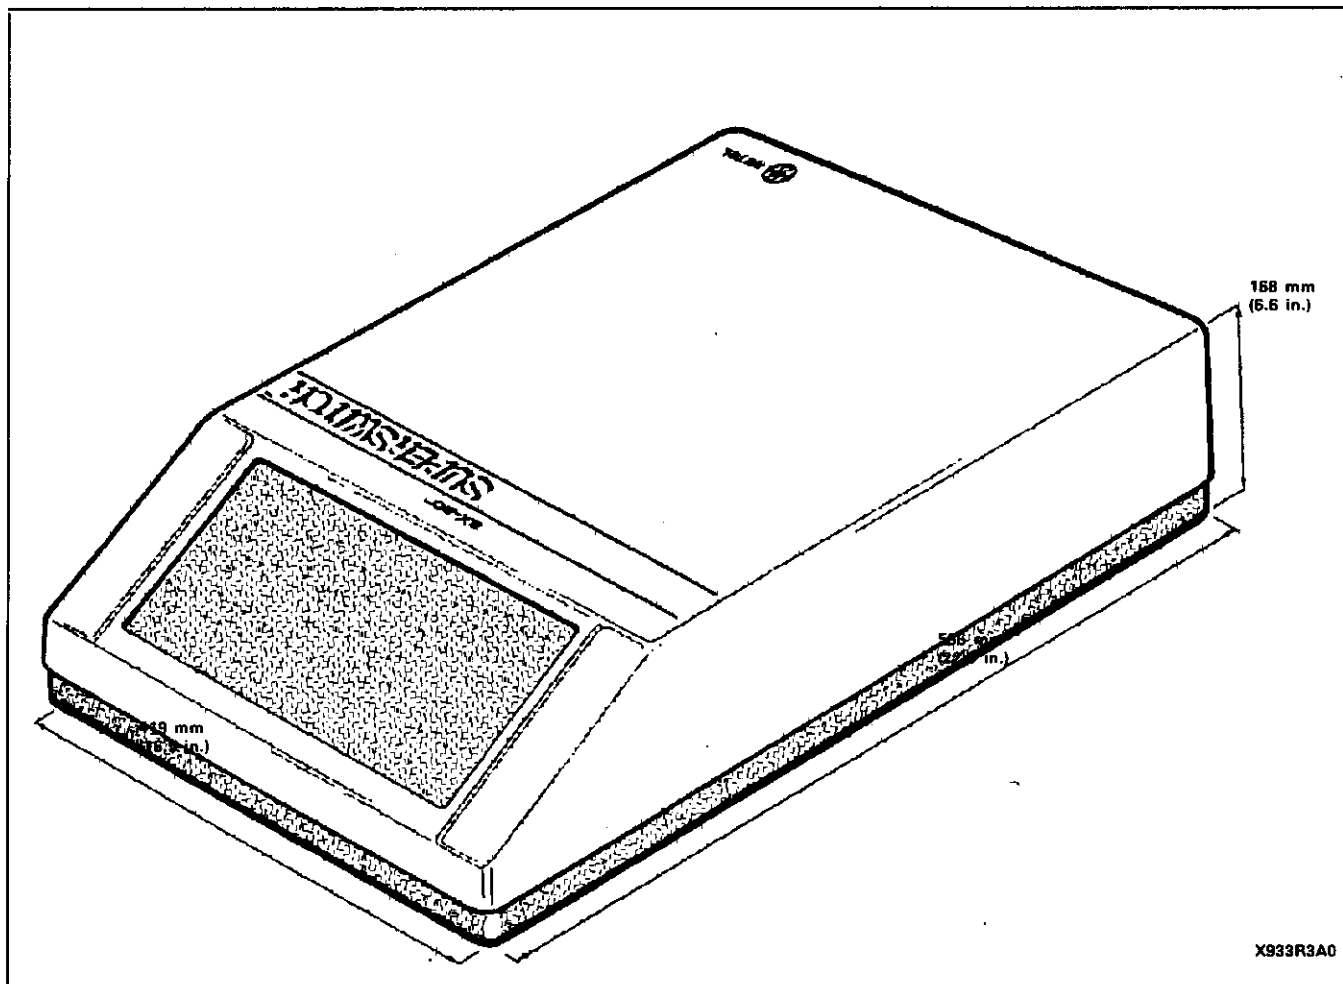

Figure 3-1 SX-20 Equipment Cabinet
3.01 The SX-20 system consists of a metal chassis (holding the circuit cards, power supply, etc.) and an impact-resistant plastic cover. The overall dimensions of the SX-20 system are shown in Figure 3-1. The total weight of a fully equipped system is approximately 13.2 kg (29 lb).